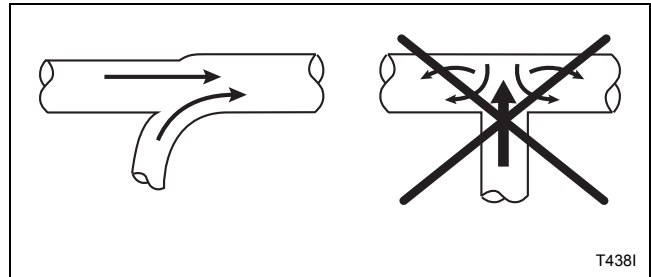

Figure 3
**NOTE: Never connect a tumbler duct at a 90° angle to the collector duct. Refer to *Figure 3*. Doing so will cause excessive back pressure, resulting in poor performance. Never connect two tumbler exhaust ducts directly across from each other at the point of entry to the collector duct.**